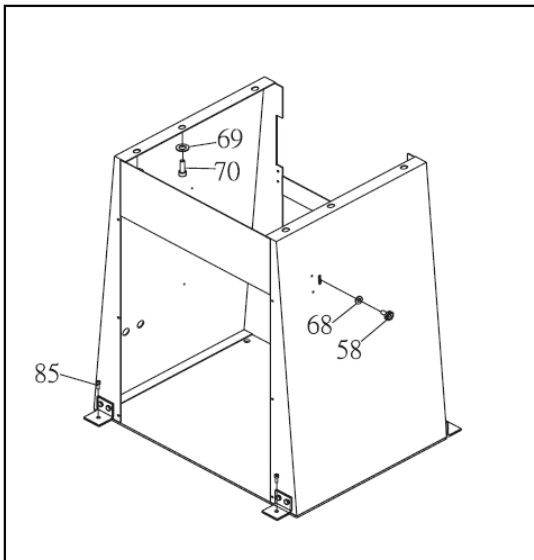

Fig. 9: Removing the fixing screws
Step 4: Remove the hexagonal head cap screws 85 (Fig.9).